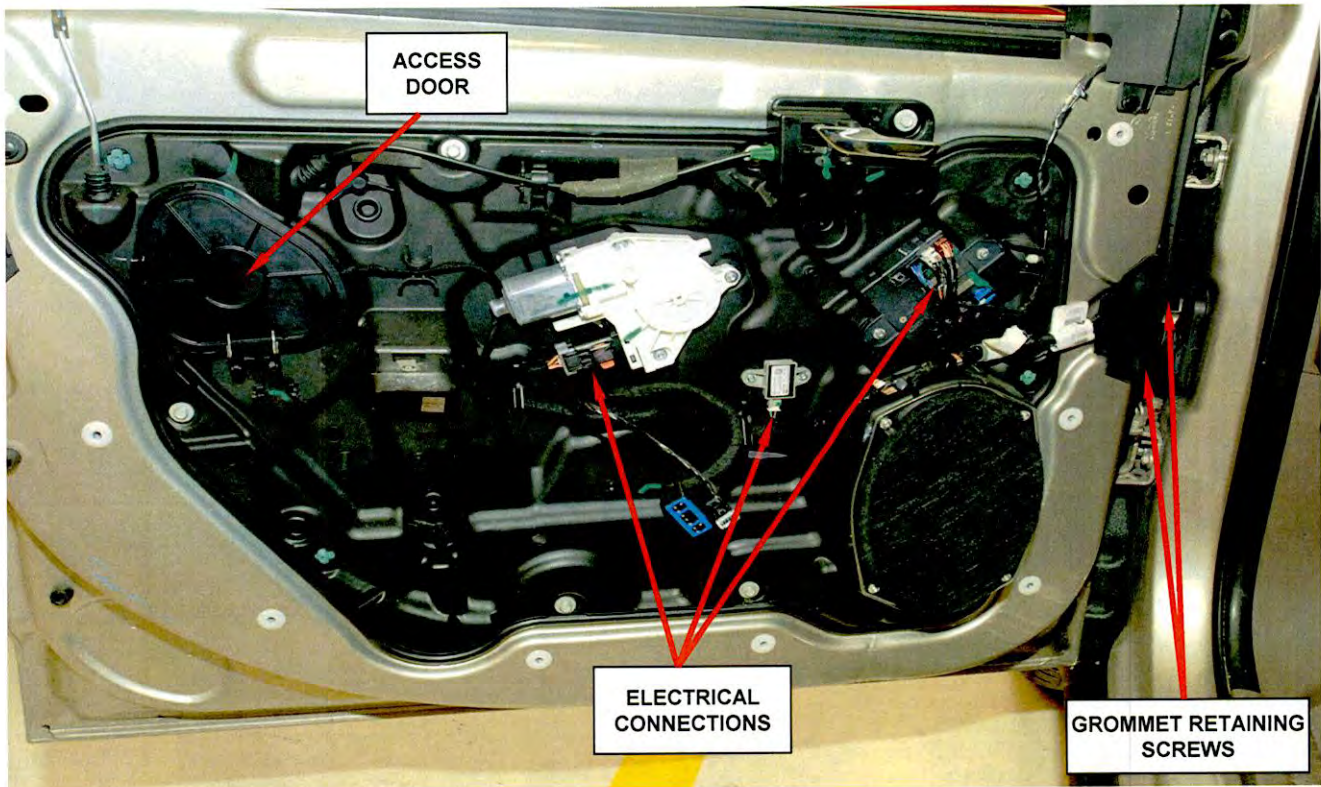

Figure 2 – Left Front Door Shown
8. Disconnect the body electrical connectors from the front door wiring harness (Figure 2).
9. Remove the two door grommet retaining screws (Figure 2).
10. Remove the door speaker from the door and disconnect the electrical connector (Figure 2).
12. Disconnect the remaining electrical connectors and remove the front door wiring harness from the vehicle (Figure 2).
17. Connect the remaining electrical connectors to their respective modules/connectors (Figure 2).